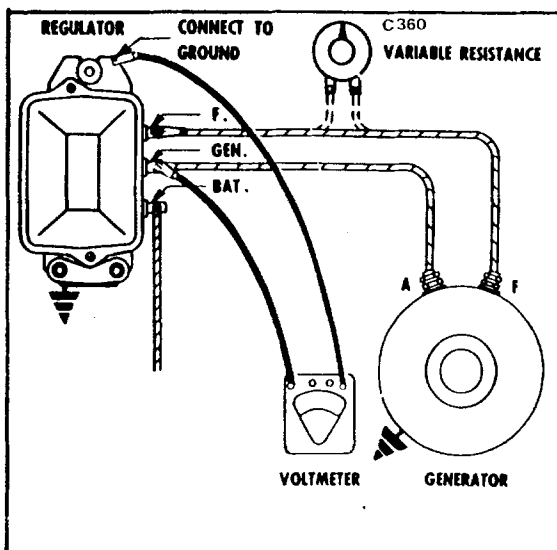

Figure 11-12. Checking Cutout Relay Closing Voltage
- a. Air Gap: Place fingers on armature directly above core and move armature down until points just close and then measure air gap between armature and center of core. (Refer to Figure 11-12.) On multiple contact point relays, make sure that all points close simultaneously. If they do not, bend spring finger so they do. To adjust air gap, loosen two screws at the back of relay and raise or lower the armature as required. Tighten screws after adjustment.
c. Closing Voltage: Connect regulator to proper generator and battery. Connect voltmeter between the regulator "GEN" terminal and ground. (Refer to Figure 11-12.)
Method 2: Make connections as in step c; but, in addition, add a variable resistor connected into the field circuit. (Refer to Figure 11-12.) Use a 25-ohm 25-watt resistor. Operate generator at medium speed with variable resistance turned all in. Slowly decrease (turn out) the resistance until cutout relay points close. Note closing voltage. With cover in place, slowly increase (turn in) resistance to make sure points open.